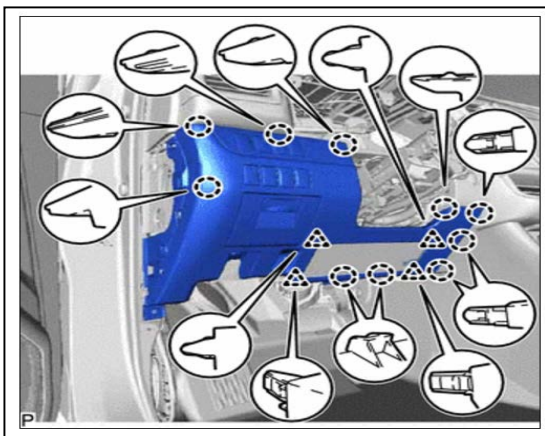

Figure 20
- b. Disengage the 10 claws and 4 clips See Figure 20.